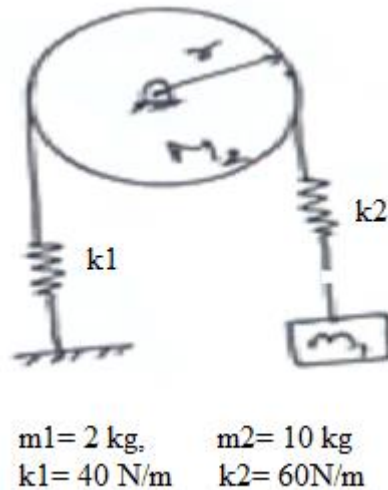

Figure.3
6. Find the natural frequencies of the system shown in fig.3